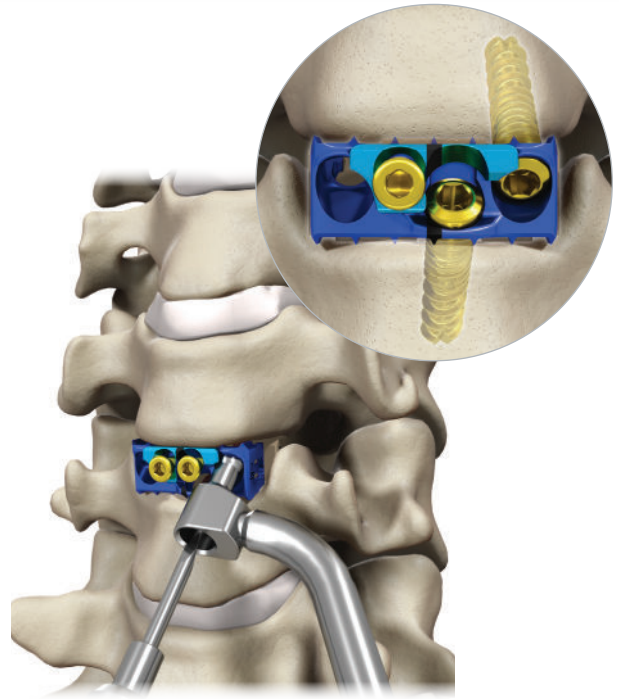

Figure 41
- Repeat these steps for the lateral screws, using the same “drill-and-fill” technique (Figure 41).